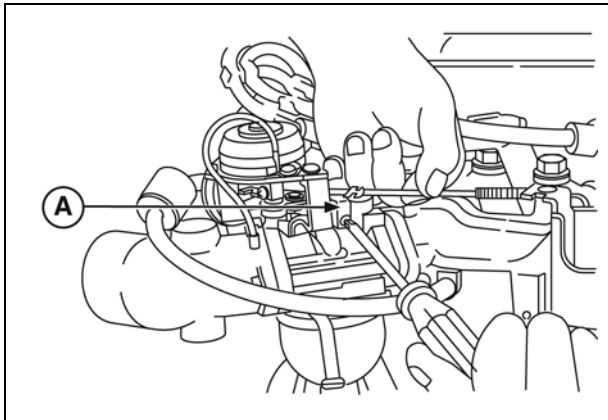

Figure 57
2. With control lever on equipment in SLOW position, hold throttle lever (A, Figure 57) against idle speed screw and adjust idle speed to 1200 RPM.